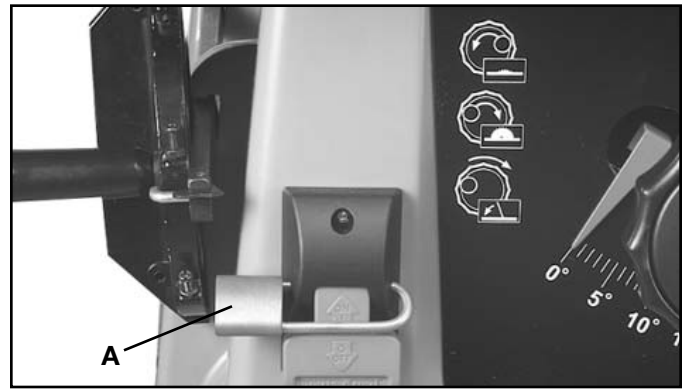

Fig. 17
IMPORTANT: When the tool is not in use the switch should be locked in the “OFF” position to prevent unauthorized use. The tool can be locked in the “OFF” position using a padlock (A) as shown in Fig. 17.